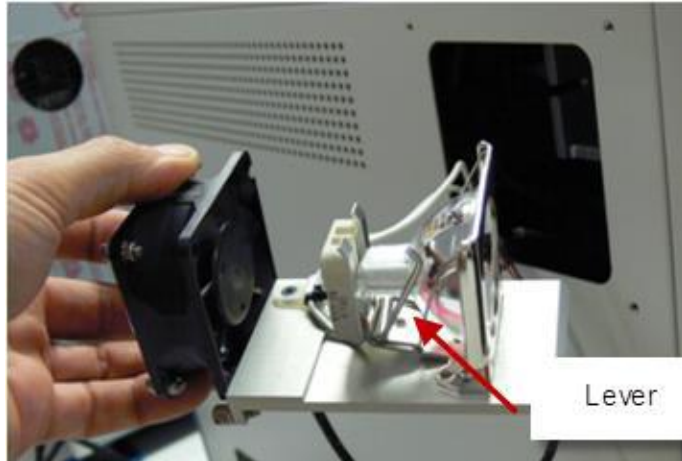

Figure 103. Ejecting the lamp assembly.
- Eject the lamp by pulling back on the wire lever (Figure 103). Remove the old lamp and discard. Replace with a new lamp supplied by Takara Bio, being careful to not touch the internal parts of